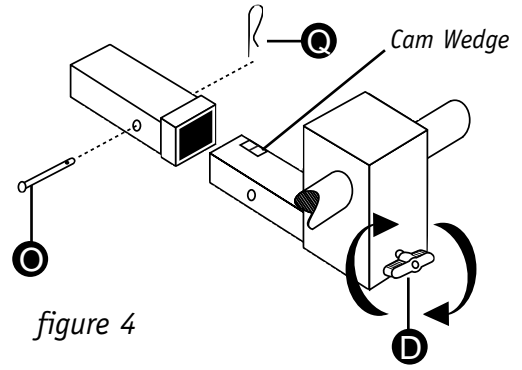
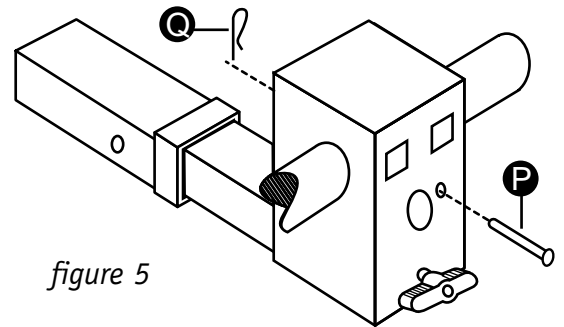

figure 4
figure 5
1. Insert the Hitch Foot (B) into the receiver hitch. If the Hitch Foot (B) will not slide easily into the receiver hitch, loosen the Plastic Knob (D) on the Hitch Foot (B), and lightly push on the knob until the Cam Wedge is recessed into the foot. Align the Hitch Foot (B) pin hole with the pin hole in your vehicle's receiver hitch. Insert the Short Clevis Pin (O) through the pin hole in your receiver hitch. Snap on the Clevis Pin Clip (Q). See figure 4.
2. Tighten the Plastic Knob (D) to stabilize the rack in the hitch.
3. Tighten the Small Lock Nuts (F) on the Hitch Foot Clamp (C) such that the Bike Tube (A) is held firmly in place, but can still pivot up into the stored position.
4. Insert the Long Clevis Pin (P) and Clevis Pin Clip (Q) into the hitch foot when the rack is in the "down" position to keep it from bouncing up. See figure 5.
5. Check the tightness of the Plastic Knob (D) shortly after the first use and occasionally during a trip.